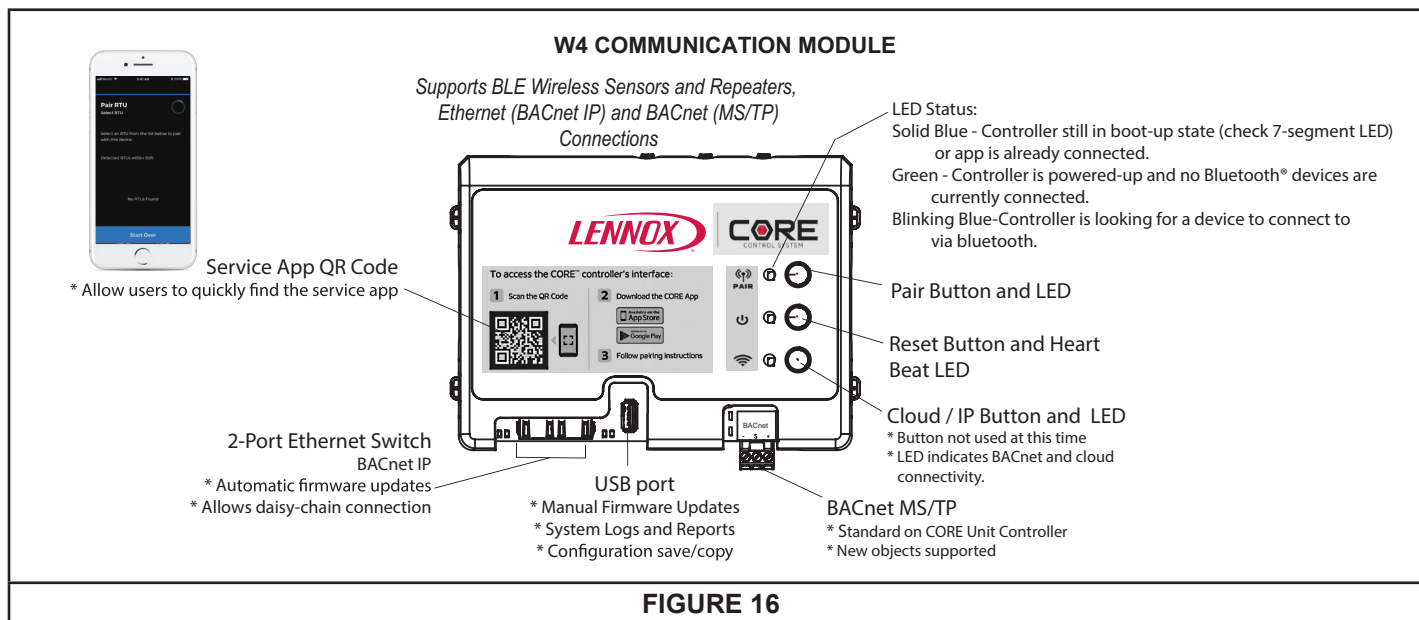

FIGURE 16
- 2 - Press and hold the pair button for five seconds. See FIGURE 16.